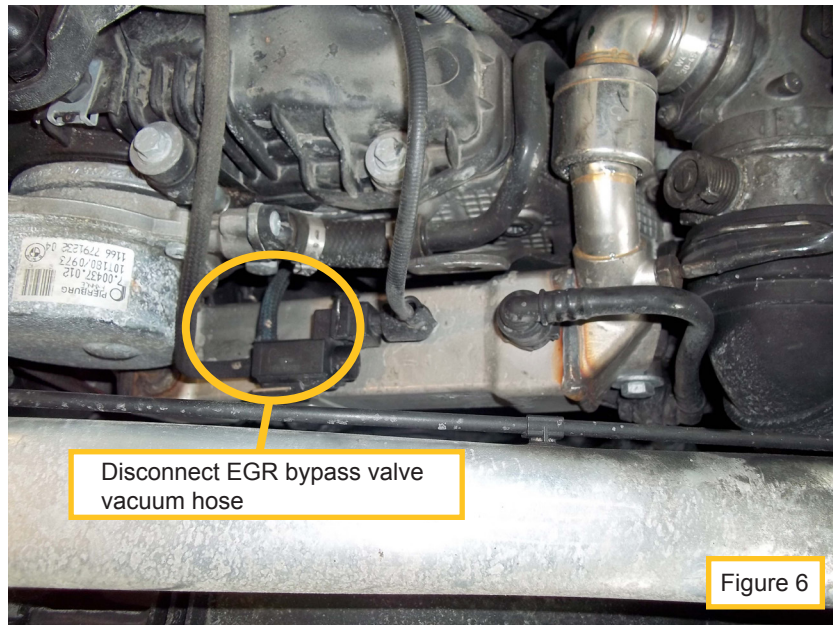

Figure 5
5. Install 069-3387 in its place (see figure 5) hand tight and reconnect EGR temperature sensor. Place EGR temperature sensor as shown.